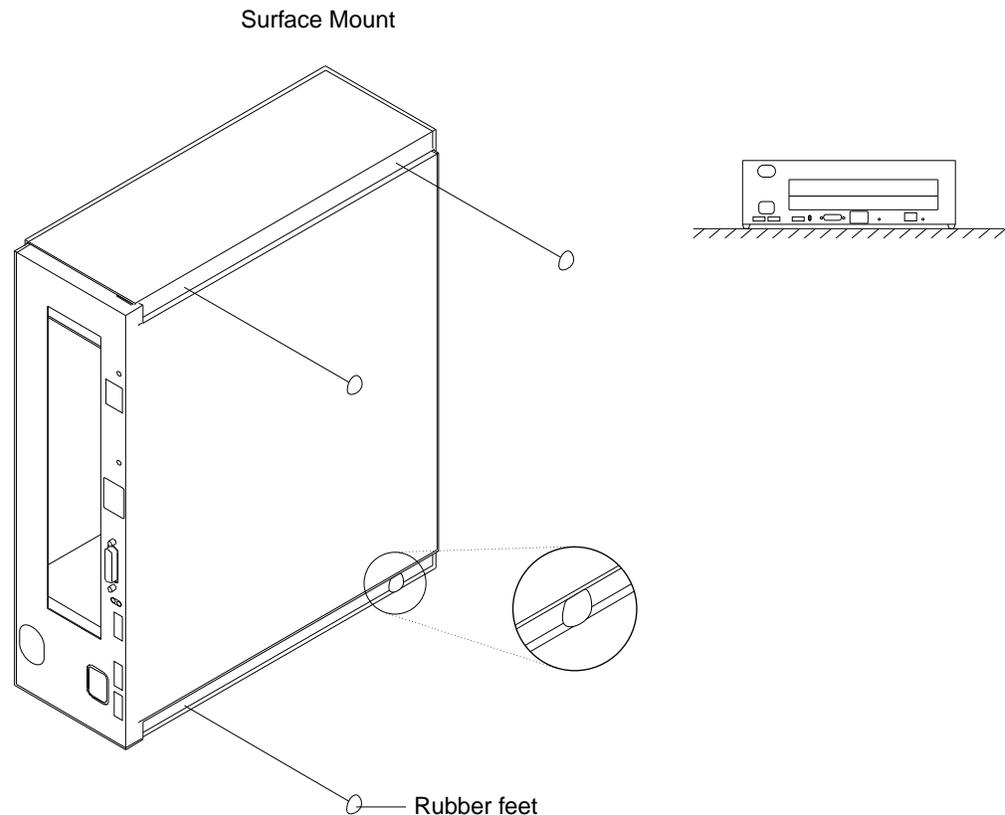

Figure 3-6. Placing the 8229 on a Surface Area
2. Place the feet exactly as shown in Figure 3-6.